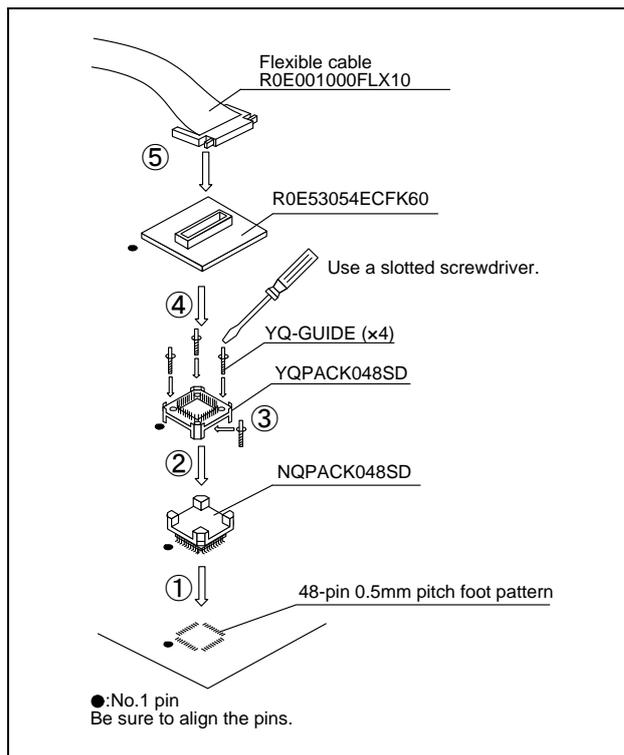

Figure 3 Connection procedure of the R0E53054ECFK60
5. Connection Procedure (See Figure 3)